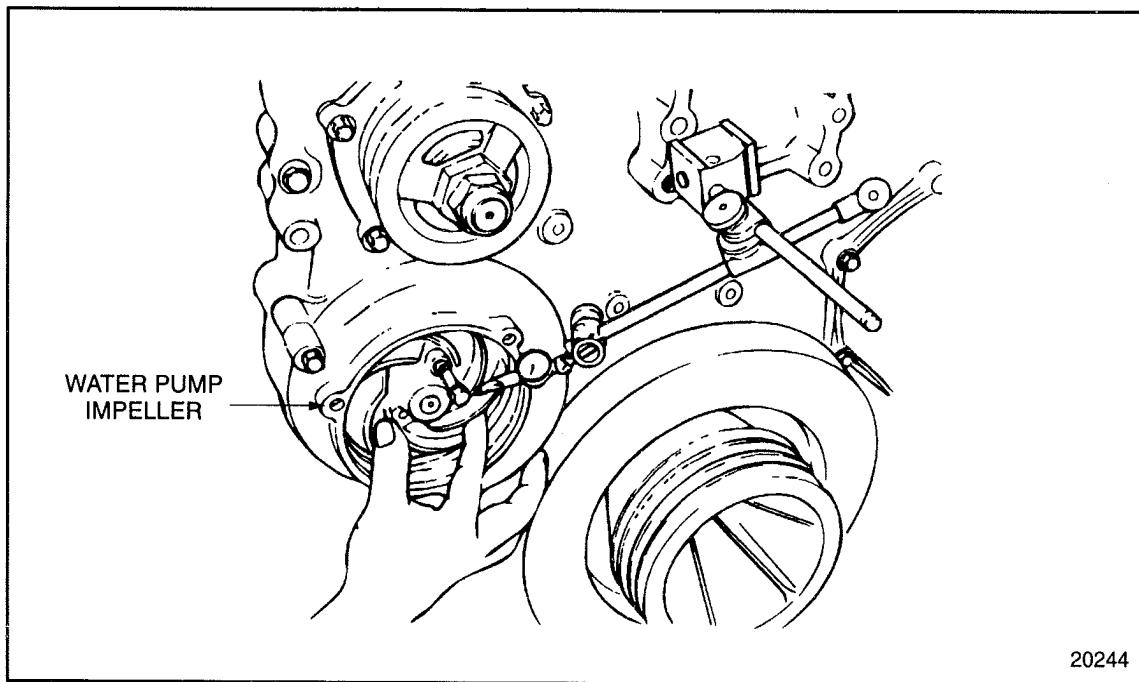

FIGURE 1-266 Water Pump Drive Gear-to-Bull Gear Lash Measurement
- [a] Install a 5/16-18 bolt and nut into one of the tapped holes in the water pump impeller. See Figure 1-266.
- [b] Install a magnetic dial indicator base and dial indicator. See Figure 1-266.